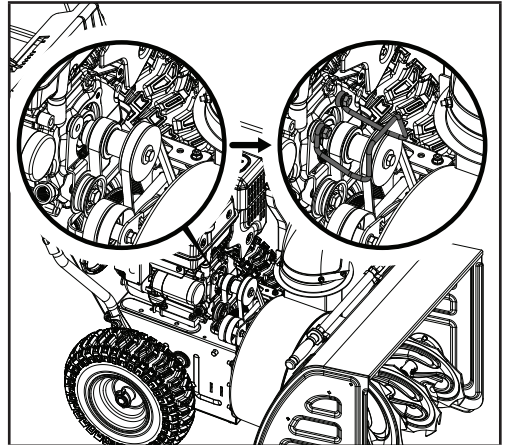

Figure 43
9. Place the belt guard back into place and install the bolts (20 mm/30 mm) that were removed earlier. Once reinstalled, make sure there is equal distance on both sides between the pulley and the guard (Fig. 43).